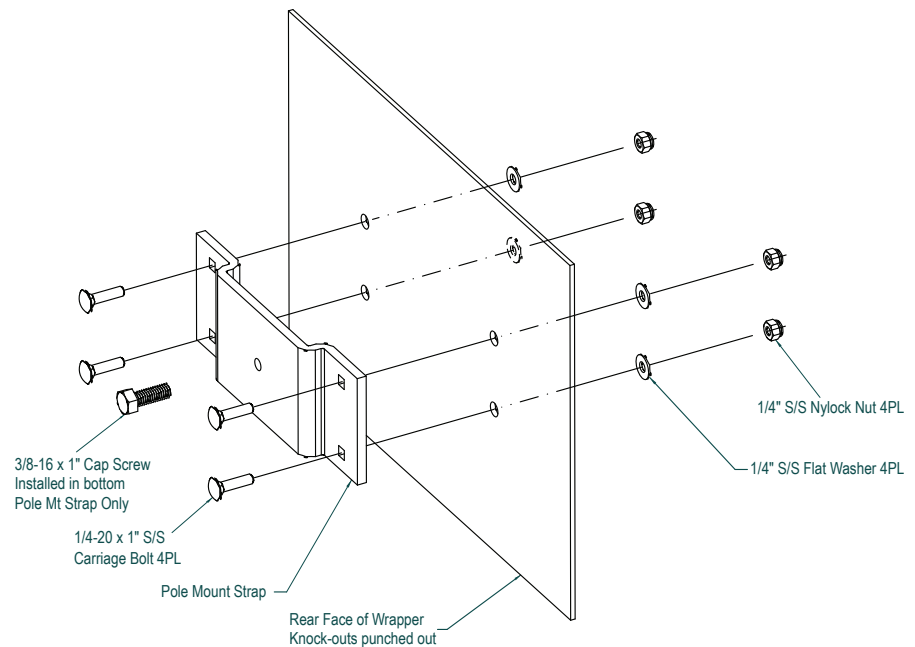

Figure 6.7 - Attaching the strap mount brackets
2. Secure the two pole mount straps to the enclosure with the supplied carriage bolts, nuts and flat washers. (Figure 6.7).